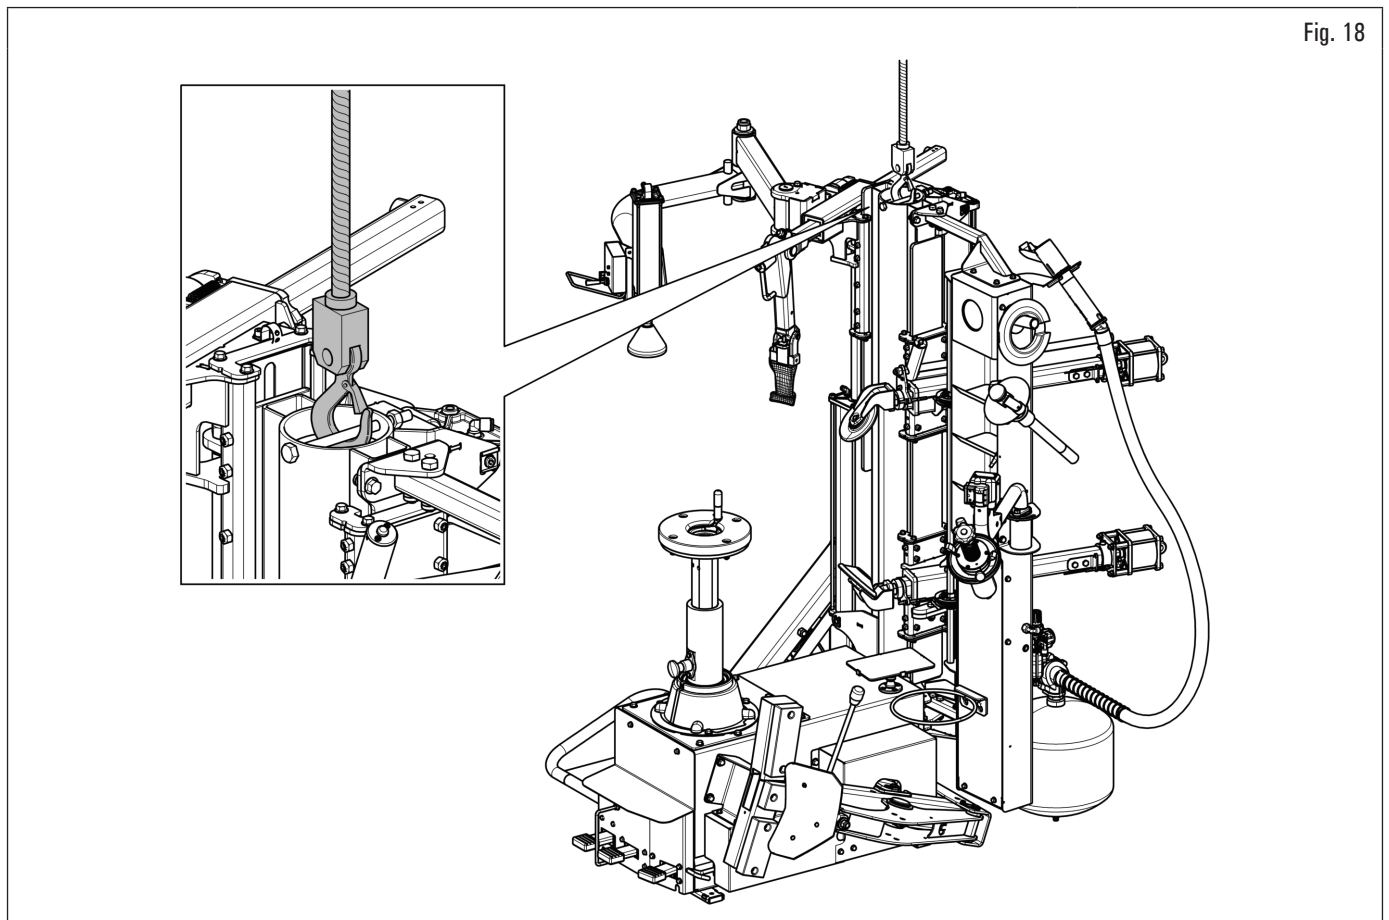

Fig. 18
- Use belts with capacity load greater than 2500 kg (5500 lbs), as indicated in Fig. 18.